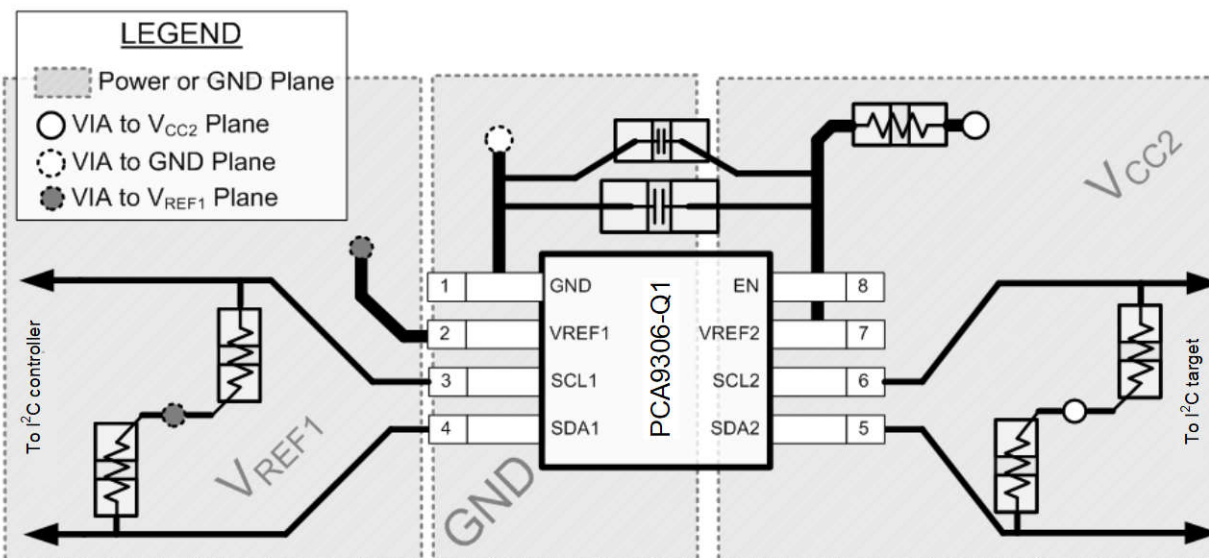

Figure 11-1. PCA9306 Layout Example
In all PCB layouts, it is a best practice to avoid right angles in signal traces, to fan out signal traces away from each other on leaving the vicinity of an integrated circuit (IC), and to use thicker trace widths to carry higher amounts of current that commonly pass through power and ground traces. The 100-pF filter capacitor should be placed as close to VREF2 as possible. A larger decoupling capacitor can also be used, but a longer time constant of two capacitors and the 200-kΩ resistor results in longer turnon and turnoff times for the PCA9306 device. These best practices are shown in Figure 11-1.
For the layout example provided in Figure 11-1, it would be possible to fabricate a PCB with only two layers by using the top layer for signal routing and the bottom layer as a split plane for power (VCC) and ground (GND). However, a four-layer board is preferable for boards with higher-density signal routing. On a four-layer PCB, it is common to route signals on the top and bottom layer, dedicate one internal layer to a ground plane, and dedicate the other internal layer to a power plane. In a board layout using planes or split planes for power and ground, vias are placed directly next to the surface-mount component pad, which must attach to VCC or GND, and the via is connected electrically to the internal layer or the other side of the board. Vias are also used when a signal trace must be routed to the opposite side of the board, but this technique is not demonstrated in Figure 11-1.